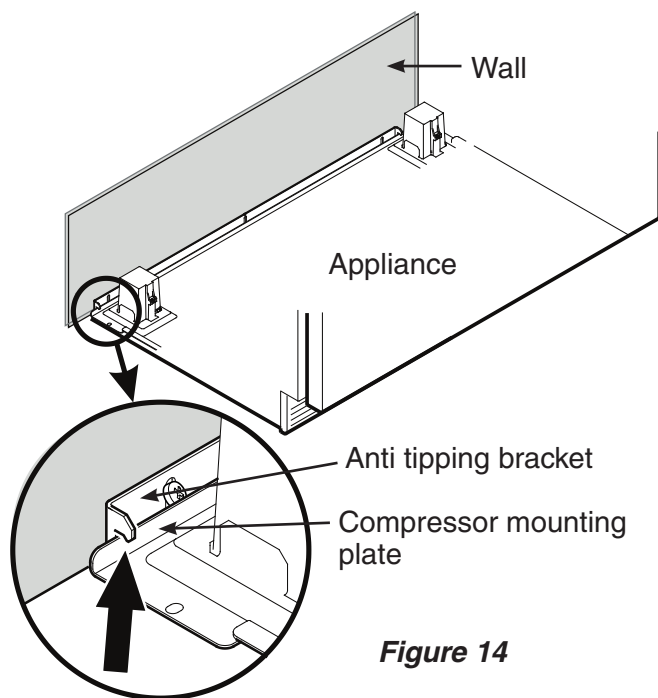

Figure 14
4. Push the appliance slowly to the back wall until the compressor mounting plate makes contact with the anti-tipping bracket (**Figure 14**).
To prevent the appliance from tipping forward the compressor mounting plate must have contact with the anti tipping bracket (Figure 14).